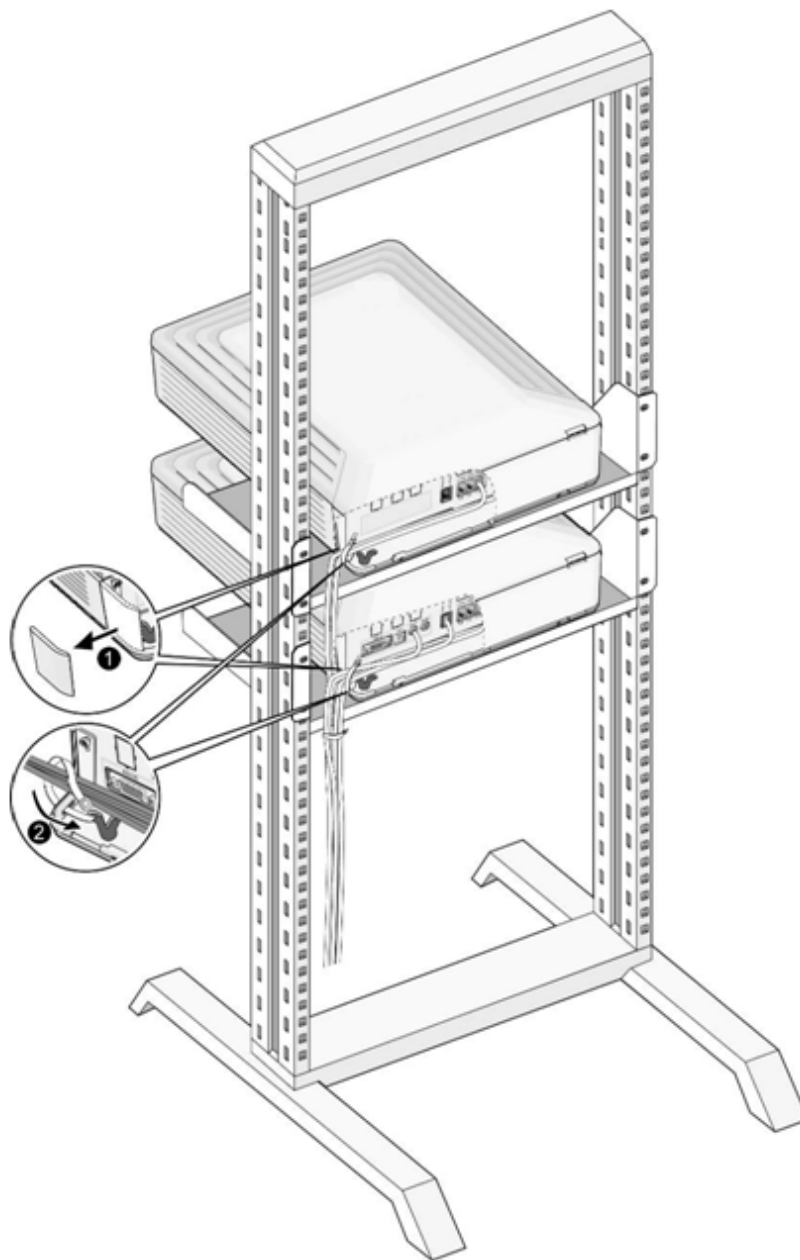

Figure 5-2 Rack Mount Wiring
2. Connect cables to the CO/STA port and the MOH/RS-232C ports as shown in Figure 5-2.